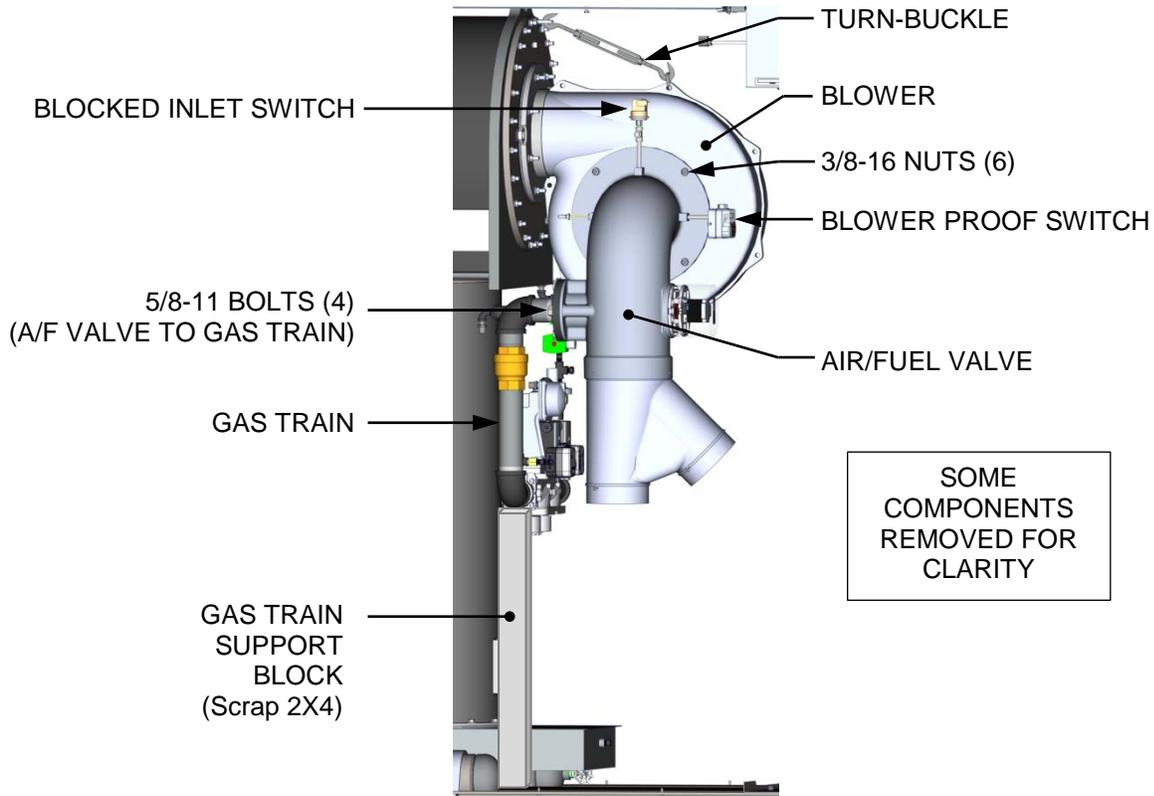

Figure 7-4b: Burner Assembly Mounting Details – Left Side View
14. Disconnect the wires from the Blower Proof and Blocked Inlet switches (see Figure 7-4b).
16. Place a support block of any appropriate material (such as a scrap 2X4 cut to length) under the gas train (see Figure 7-4b), and then remove the four 5/8-11 bolts & washers connecting the gas train to the Air/Fuel valve.